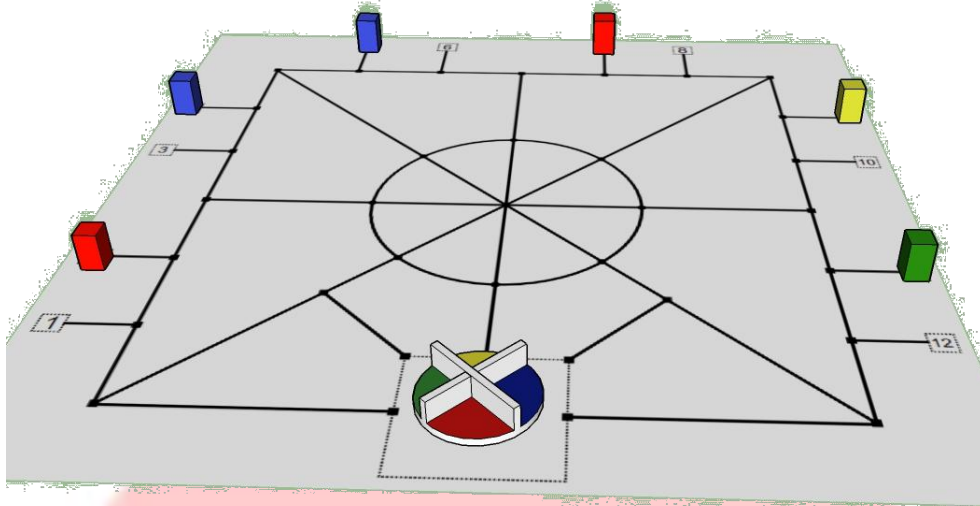

Figure 2: Arena with Blocks and Rotating Structure
- Figure 2 shows the arena with Blocks and Rotating Structure.